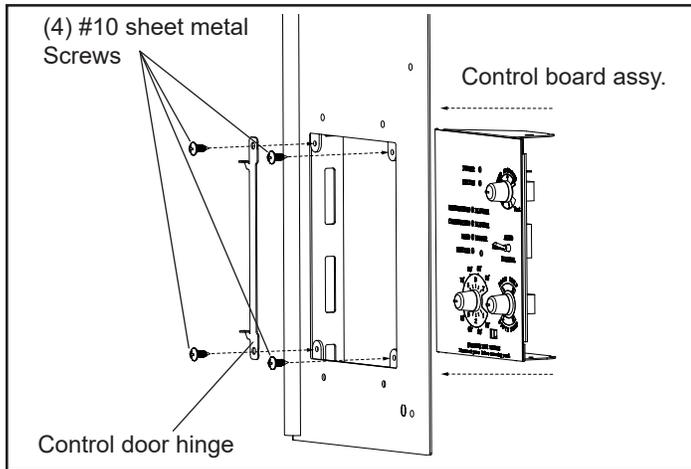

Figure 8.5 - Install control board assembly.
Using (4) #10 sheet metal screws located in the hardware pack, install the control door hinge and control board assembly to the left side wing surround, Figure 8.5.